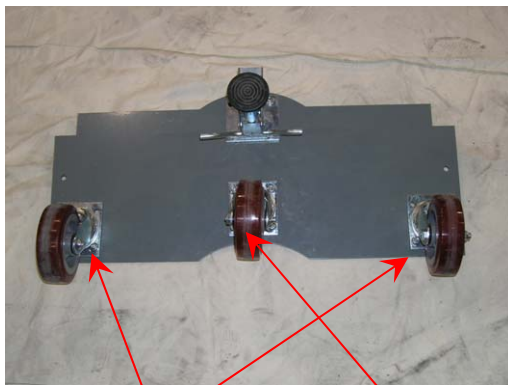

Fig 3.3
- 3.2 Bolt Center caster on the middle section of base (Fig 3.3) with four (4) 3/8" x 1" bolts (B) c/w 3/8" lock-nut (G) and 3/8" washers (K). **Bolt heads should be on the Bottom Side of plate, washers and nuts on the Top Side of plate.**
- 3.3 Bolt Left- side caster on using one (1) 3/8" x 1" bolt (B) / lock-nut (G) and 3/8" washer (K). Bolt Right -side caster on using one (1) 3/8" x 1" bolt (B) c/w lock-nut (G) and 3/8" washer (K). Notice -bolts should be placed in the exact position the arrow heads show in Fig 3.3. **Bolt head should be on the Bottom Side of plate, washer and nut on the Top Side of plate.**